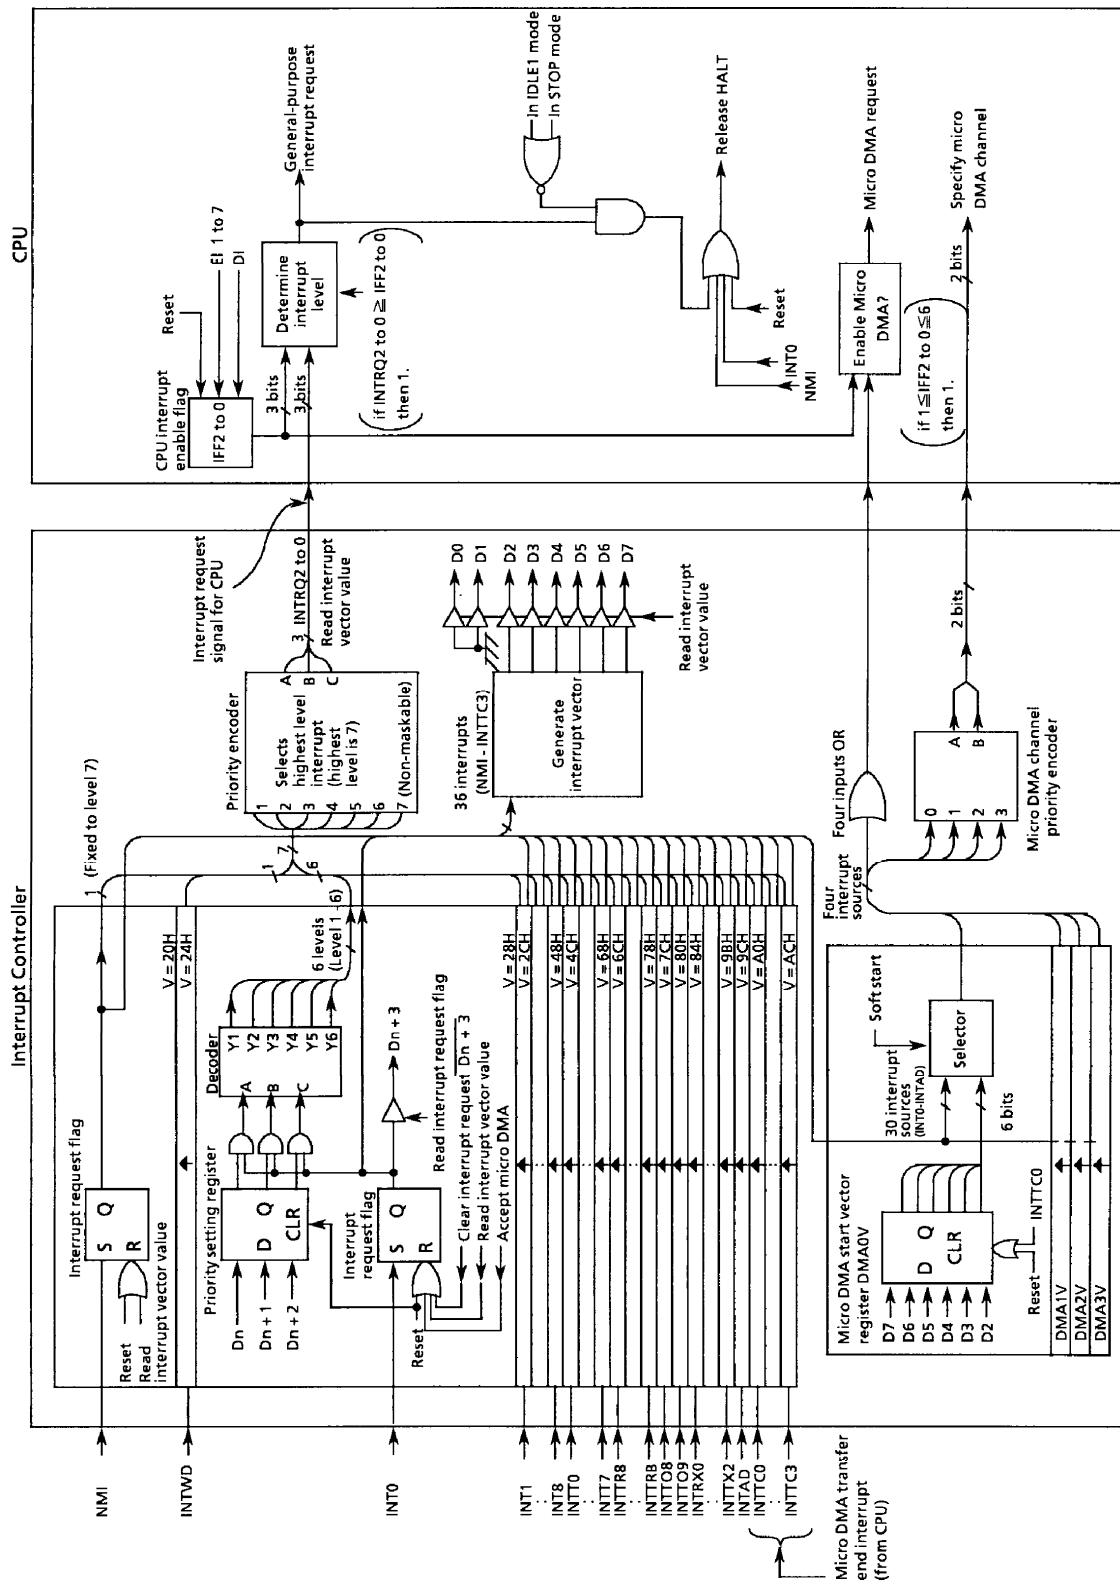

Figure 3.3 (4) Block Diagram of Interrupt Controller
(2) Interrupt Priority Setting Register
Figure 3.3 (5) shows the interrupt priority setting registers. Each of the 34 interrupt channels (INT0 to AD, INTTC0 to 3) has an interrupt request level setting bit <IxM2:0>. An interrupt request is generated at six interrupt levels (levels 1 through 6). Setting the priority level to 0 (or 7) disables the corresponding interrupt request. The priority level for non-maskable interrupts (NMI pin input) is fixed to 7. If two or more interrupts with the same level occur simultaneously, the interrupts are accepted in accordance with the default priority.